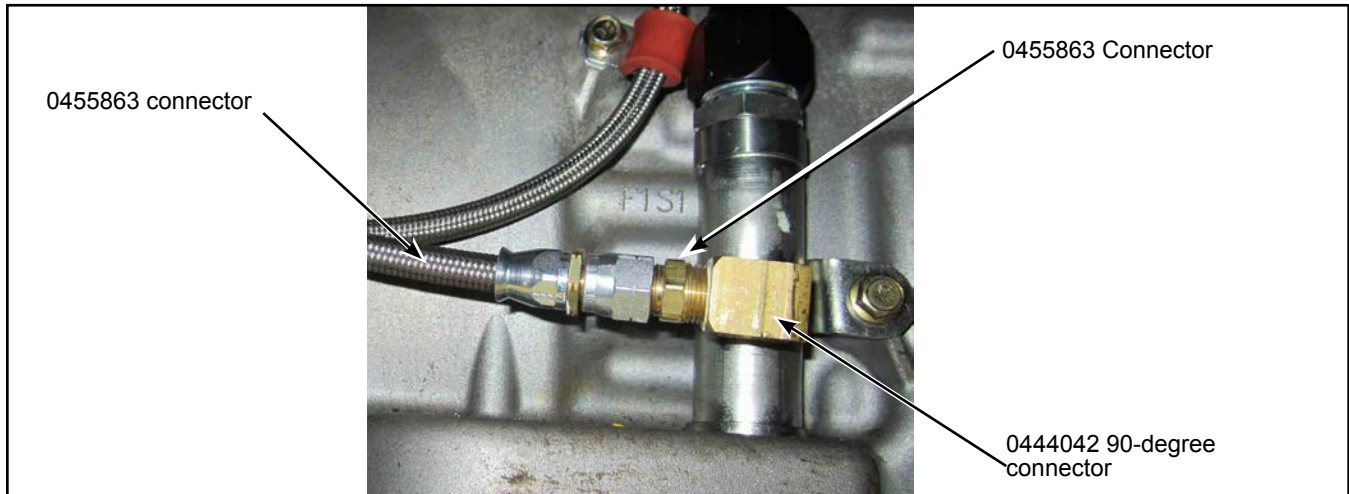

Figure 3 - Hose Connection
- 1.4. Install the 0444042 90-degree elbow. Apply white thread sealer, Loctite 565, or equivalent. See Figure 3.